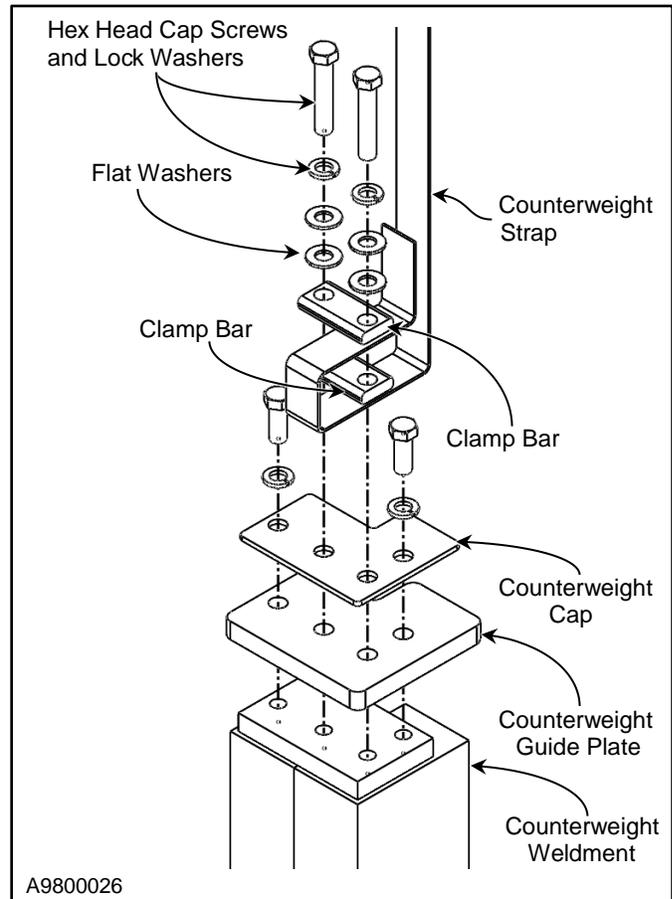

Figure 22
5. With the straps hanging straight, attach them to the counterweights using two  $\frac{3}{8}$ -16 UNC x 2 hex head cap screws,  $\frac{3}{8}$ -in. split lock washers,  $\frac{3}{8}$ -in. flat washers, & clamp bars provided in the small parts carton as shown. (See Figure 22)